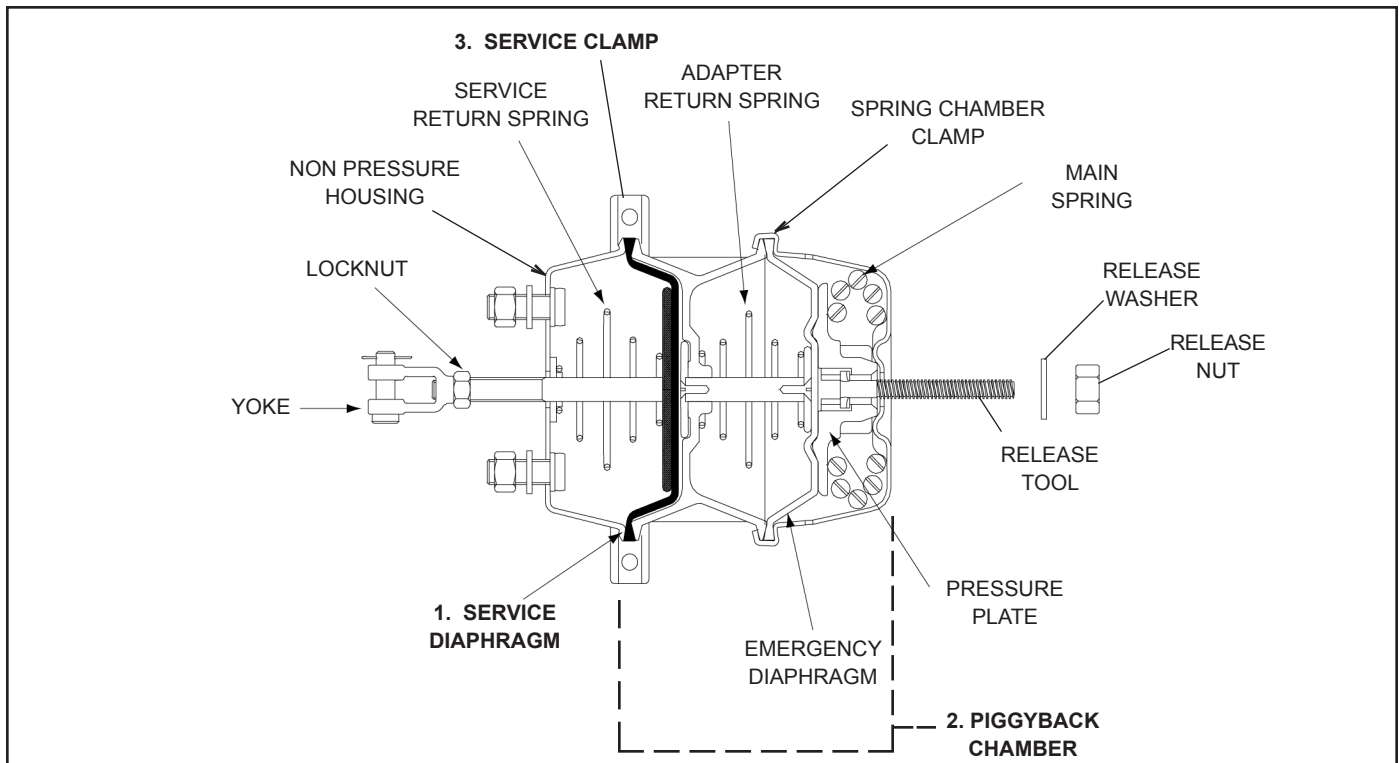

FIGURE 3 - PIGGYBACK SPRING BRAKE
3. Insert the release tool (T-bolt) through the release tool keyhole and into the pressure plate. See figure 3.